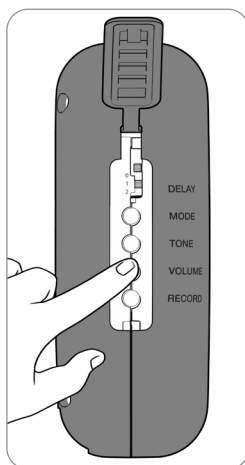

Fig. 7
3. Press VOLUME button on left side of alarm to scroll through the volume selections (Fig. 7).